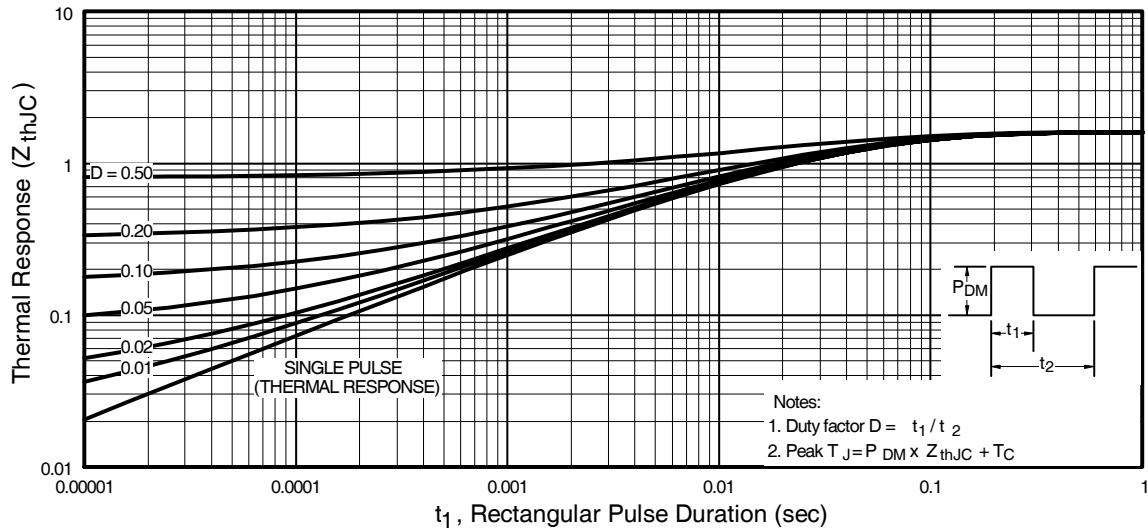

Fig 11. Maximum Effective Transient Thermal Impedance, Junction-to-Case
- ① Repetitive rating; pulse width limited by max. junction temperature. (See fig. 11)
- ② Starting $T_J = 25^\circ\text{C}$, $L = 4.9\text{mH}$